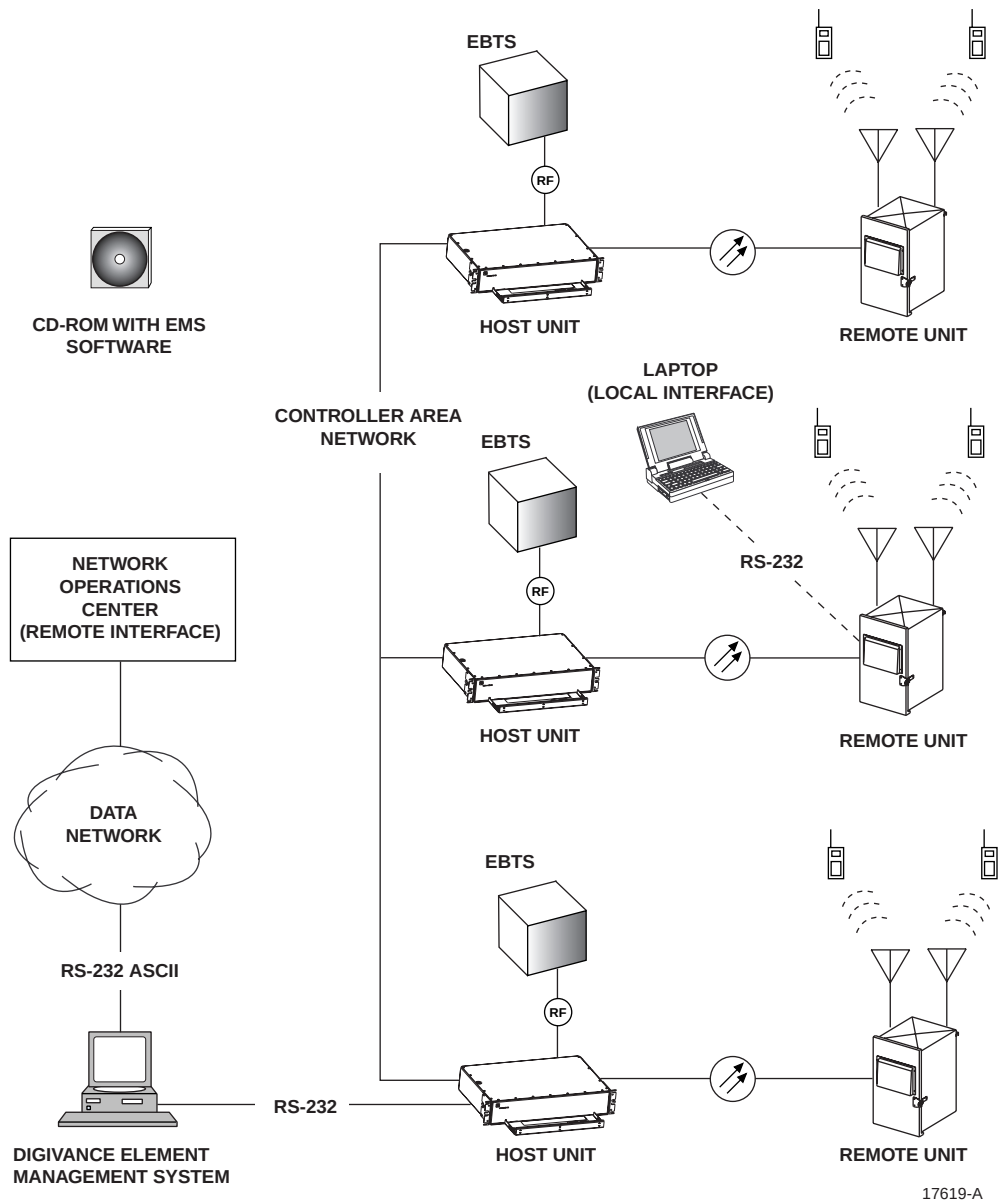

Figure 1-1. System Overview Diagram
The basic components of a Digivance LRCS system and their functions are shown in Figure 1-1. A single band LRCS system consists of the Host Unit (HU) and the Remote Unit (RU). Control and monitoring functions are provided by the Digivance Element Management System (EMS). In addition, various accessory items including a back-up battery kit (for the RU), a Wave Division Multiplexer (WDM) module (for the HU and RU), network cables (for connecting multiple HU's together), and EMS cable (for connecting the EMS computer to the HU) are available separately.